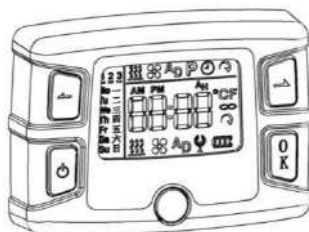

Fig.7
3.6 LCD control switch (Optional device, see Fig.7)